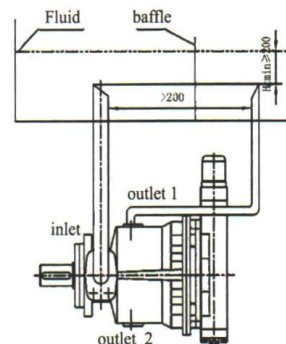

Fig.5
b) Mounting below the reservoir Pipe ports "outlet 1" and "inlet" according to Fig.5, close port "outlet 2"